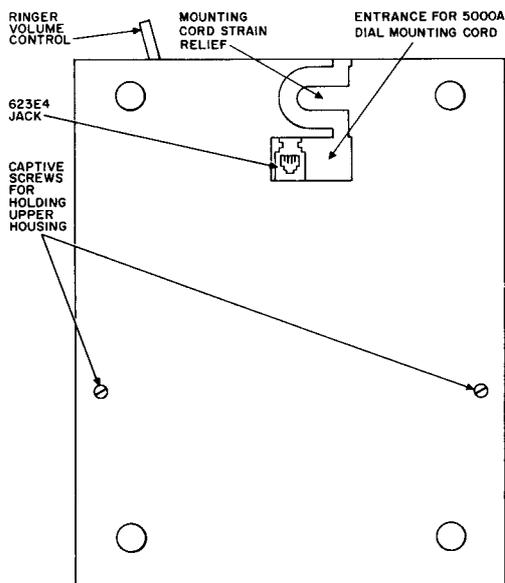

Fig. 3—Bottom of 5000AM Transaction I Telephone Base
(1) Disconnect power plug from AC outlet, if connected.
(2) Invert set and loosen the two captive screws holding the upper housing and chassis (Fig. 3).
(6) Replace upper housing and chassis and tighten captive screws holding upper and lower housing together.
(7) Place jacketed portion of mounting cord under strain relief as shown in Fig. 3.
(8) Affix 840713366 label to top of 5000A dial directly above number buttons.